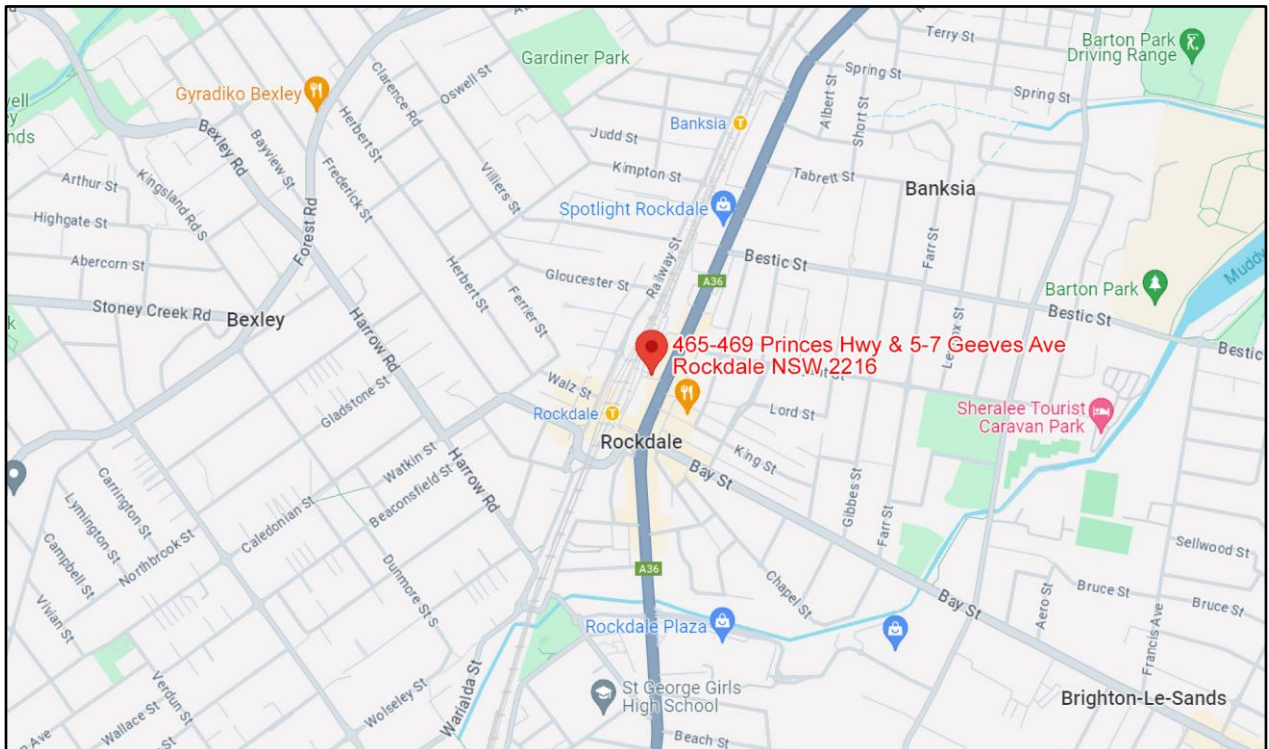
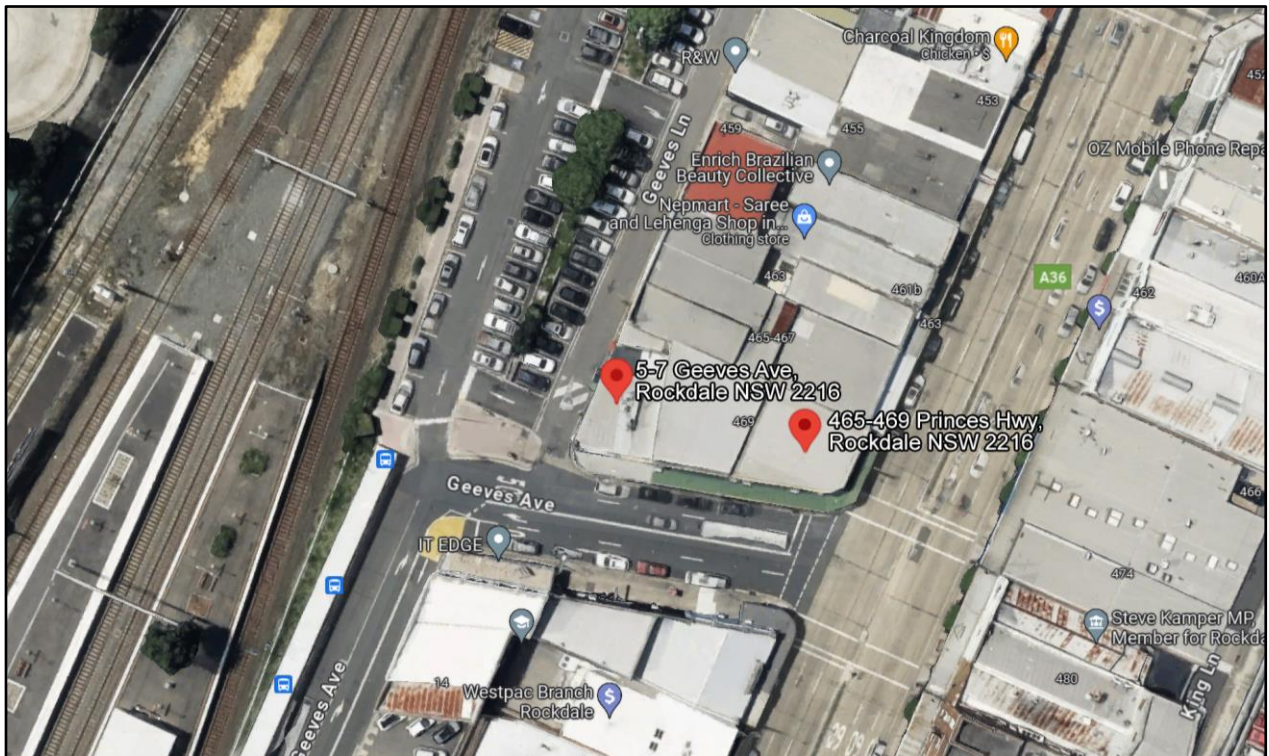

Figure 1: Subject Site Location
Figure 2: Subject Site Aerial View
**Figure 1** provides an overview of the area, and its surrounding land uses whilst **Figure 2** provides an aerial view of the immediate area surround the subject site.